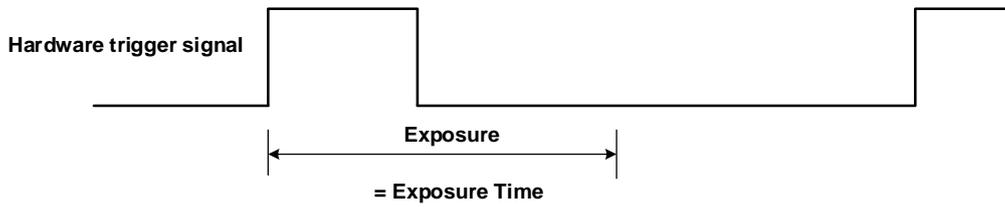

Figure 8-21 The sequence diagram in rising edge trigger of Timed exposure mode
- If rising edge triggering is enabled, exposure starts when the trigger signal rises and continues until the exposure time has expired, as shown in Figure 8-21